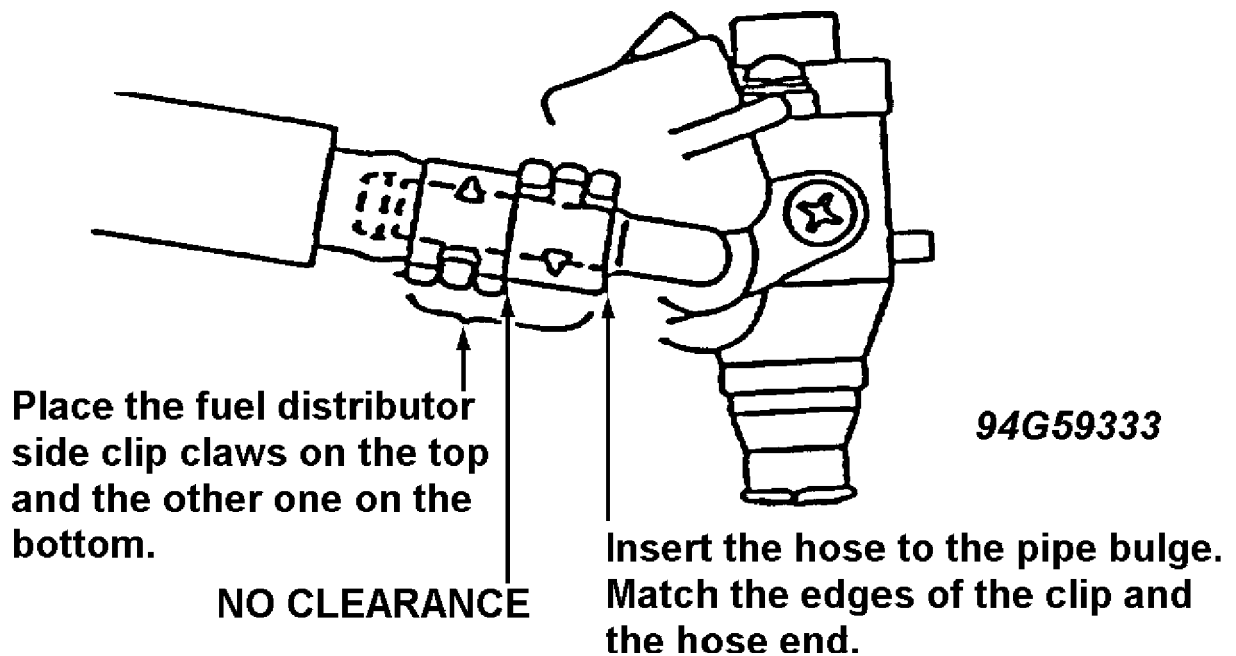

Fig. 20: Installation of Clips on Hose
- \* Place the fuel distributor side clip claws on the top and the other one on the bottom. For the directions of the clip claws, see Figs. 20 and 21. Insert the hose to the pipe bulge. Match the edges of the clip and the hose end.